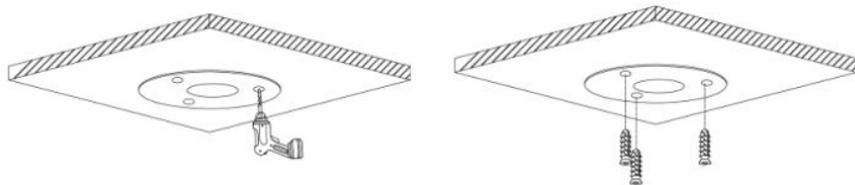

Figure 2-2
Step 3 Find “cross” signs on the map, and drill three plastic expansion bolt holes on the installation surface and then insert three expansion bolts into the holes. Secure these three bolts firmly. See Figure 2-2.